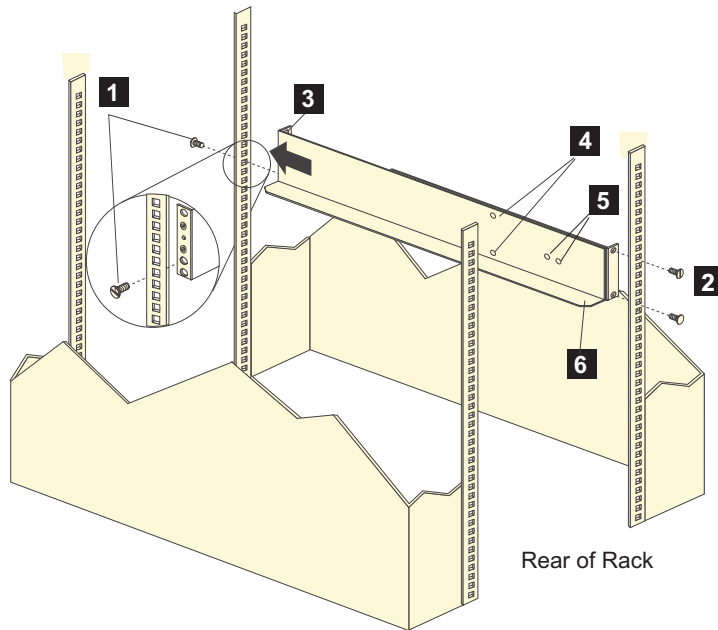

Figure 11. Installing the support rails
Note: Refer to Figure 11 on page 28 while performing these steps.
Note: The support rails are not marked as left or right. However, each rail can be correctly mounted on only one side of the rack cabinet. The rails should be mounted with the alignment pins at the back of the rack. Figure 11 on page 28 shows the installation of the left support rail.
2. Remove the four screws from the rails (two screws in each rail). See **4** in Figure 11 on page 28. If you do not remove these screws, the storage expansion enclosure will not fit securely.